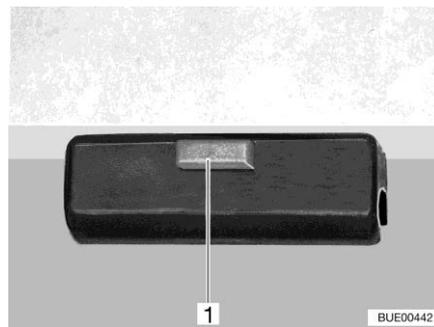

Fig. 127 Lock
- Release the lock (Fig. 127,1) on the table top.